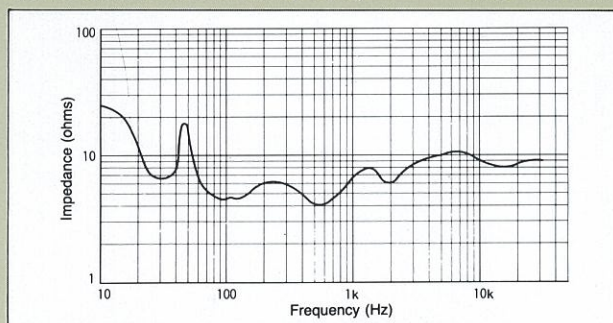

Fig. 1 Impedance curve example (JBL 4345 with rated impedance 8 ohms)
The power supplied into the speaker load is defined as the product of voltage at the output terminals (V) and current (I), expressed as $W = V \times I$. The voltage can be measured quite easily with a voltmeter, but it is very difficult to determine the current. For this reason, conventional power meters are based on the assumption that the nominal speaker impedance is the load R, calculating current as $I = V/R$. Inserting this into the above equation for power yields $W = V^2/R$. However, as is evident from the example shown in Fig. 1, actual speaker impedance is a complex factor that varies considerably with frequency. The peaks and dips in the impedance curve of course cause the current supplied into the load to fluctuate. Measuring only the voltage at the output therefore is not sufficient to obtain true power readings.